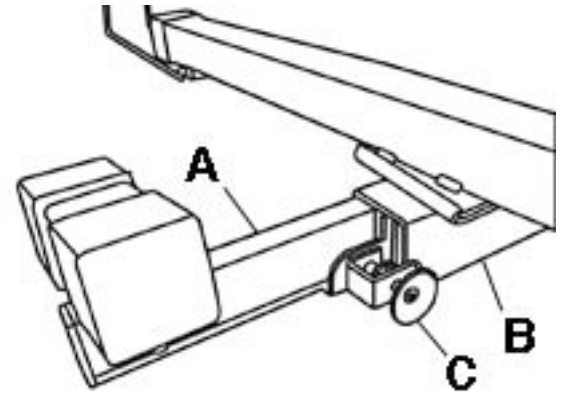

FIGURE 8
The outriggers (A) Fig.8 at both ends of the cradle (B) extend for supporting longer drywall panels. To extend the outriggers;
- 1) Pull out the lock pin (C) until you can slide the outrigger (A) out.
- 3) Extend the cradle outriggers as needed to fully support the length of the drywall panel, see Fig.8. Make sure the outrigger lock pins are engaged in one of the three locked positions.